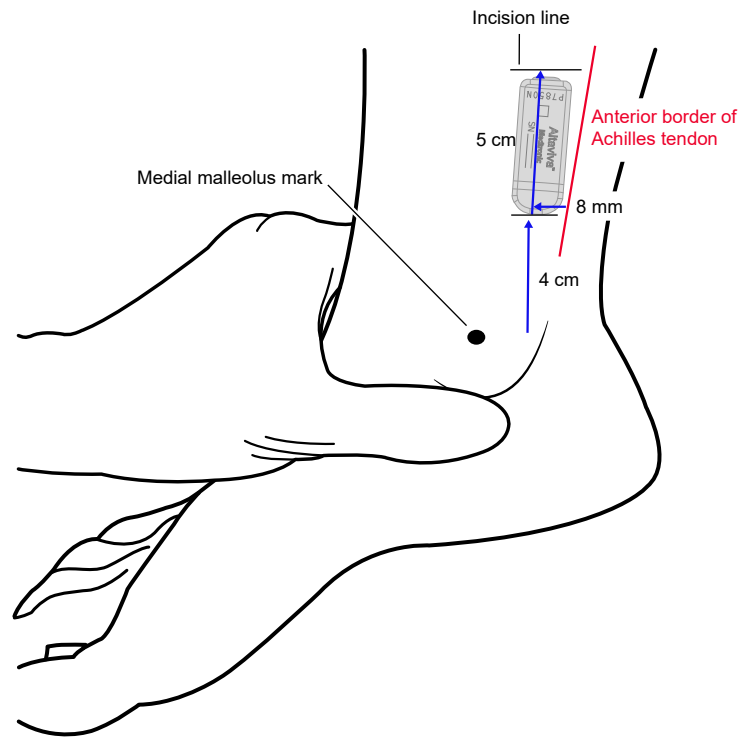

Figure 4. Overview of the implant location
2. Locate medial malleolus and anterior border of the Achilles tendon (Figure 4).
3. Identify the location for the pocket over the tibial nerve and skin incision (Figure 4).